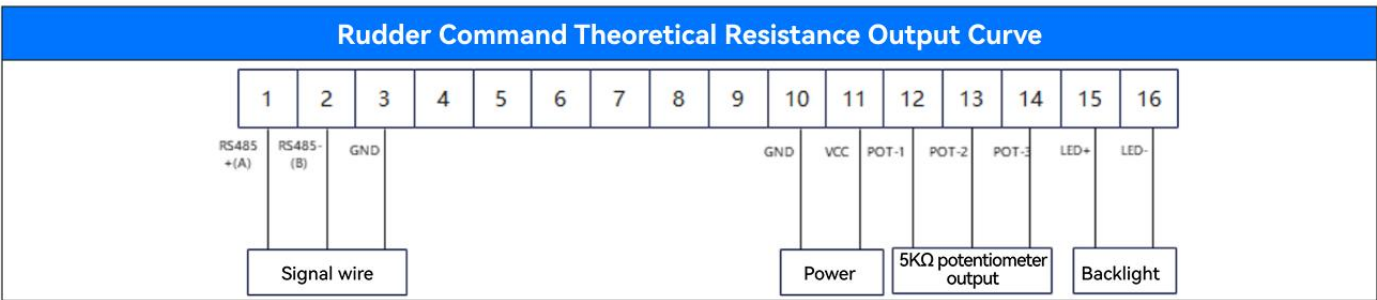

Figure 2.4
3. Electric axis function: The mini rudder wheel supports the electric axis function. An internal driving motor is added to the product to enable two operation modes: conventional manual steering and the rudder wheel rotating driven by the motor. The wiring is shown in Figure 2.4.